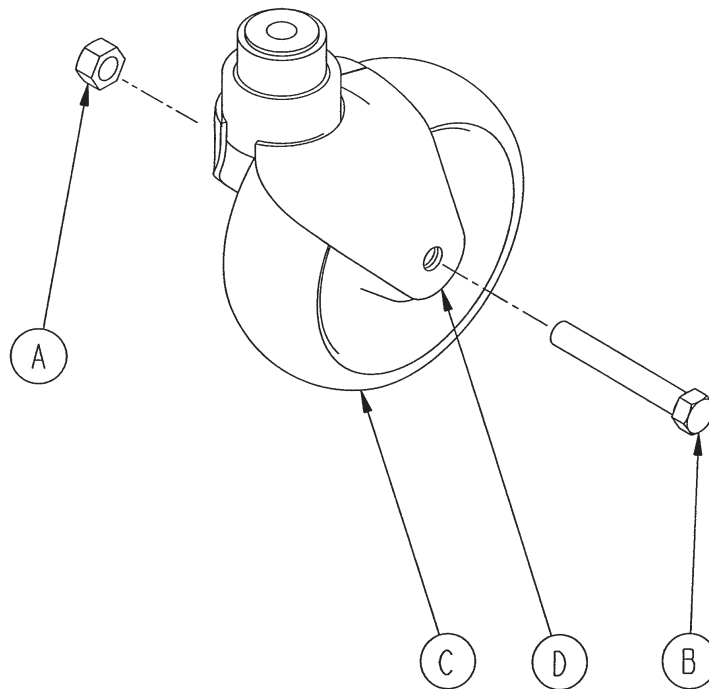

Figure 1 – Caster maintenance
2. Using a 5/8" combination wrench and an 11/16" combination wrench, remove the lock nut (A) from the bolt (B) (Figure 1). Save the lock nut.
4. Remove the bolt (B) and the molded wheel (C). Save the bolt and the molded wheel.
5. Clean the bolt, molded wheel, and the inside of the caster horn (D) to remove any dirt or debris.